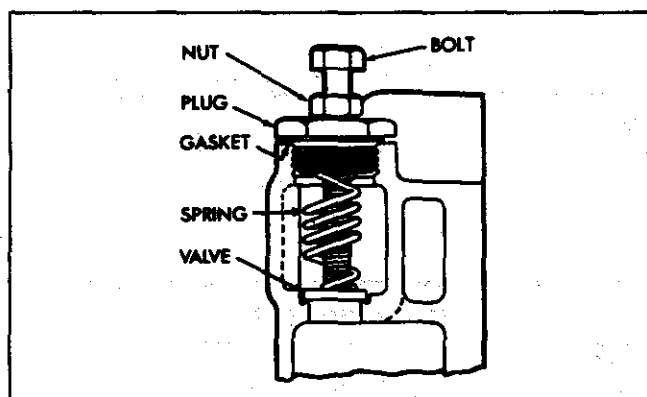

Fig. 2 - Bypass Valve with Modified Valve Plug Installed
*If the valve is secured by a plug, drill and tap a 1/4" - 20 hole in a filter bypass valve plug. Install a bolt long enough to contact the valve and keep it from opening and a nut to lock the bolt in position (Fig. 2). When the dynamometer test is completed, replace the modified plug with a standard plug and change the filter(s).*